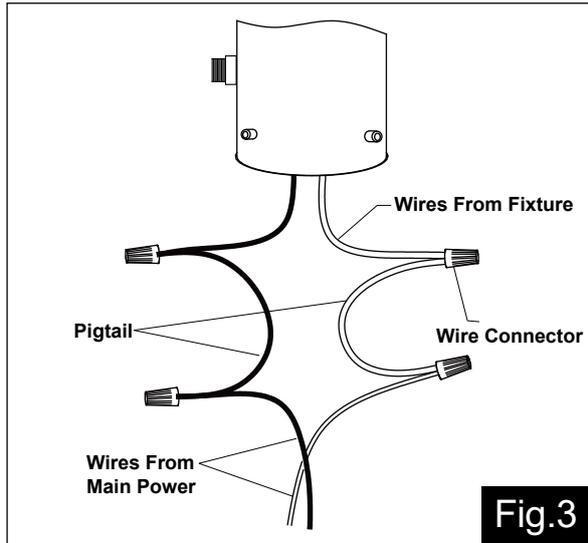

Fig.3
3. Take a white pigtail and black pigtail and make wire connections using wire connectors: (See Fig.3)